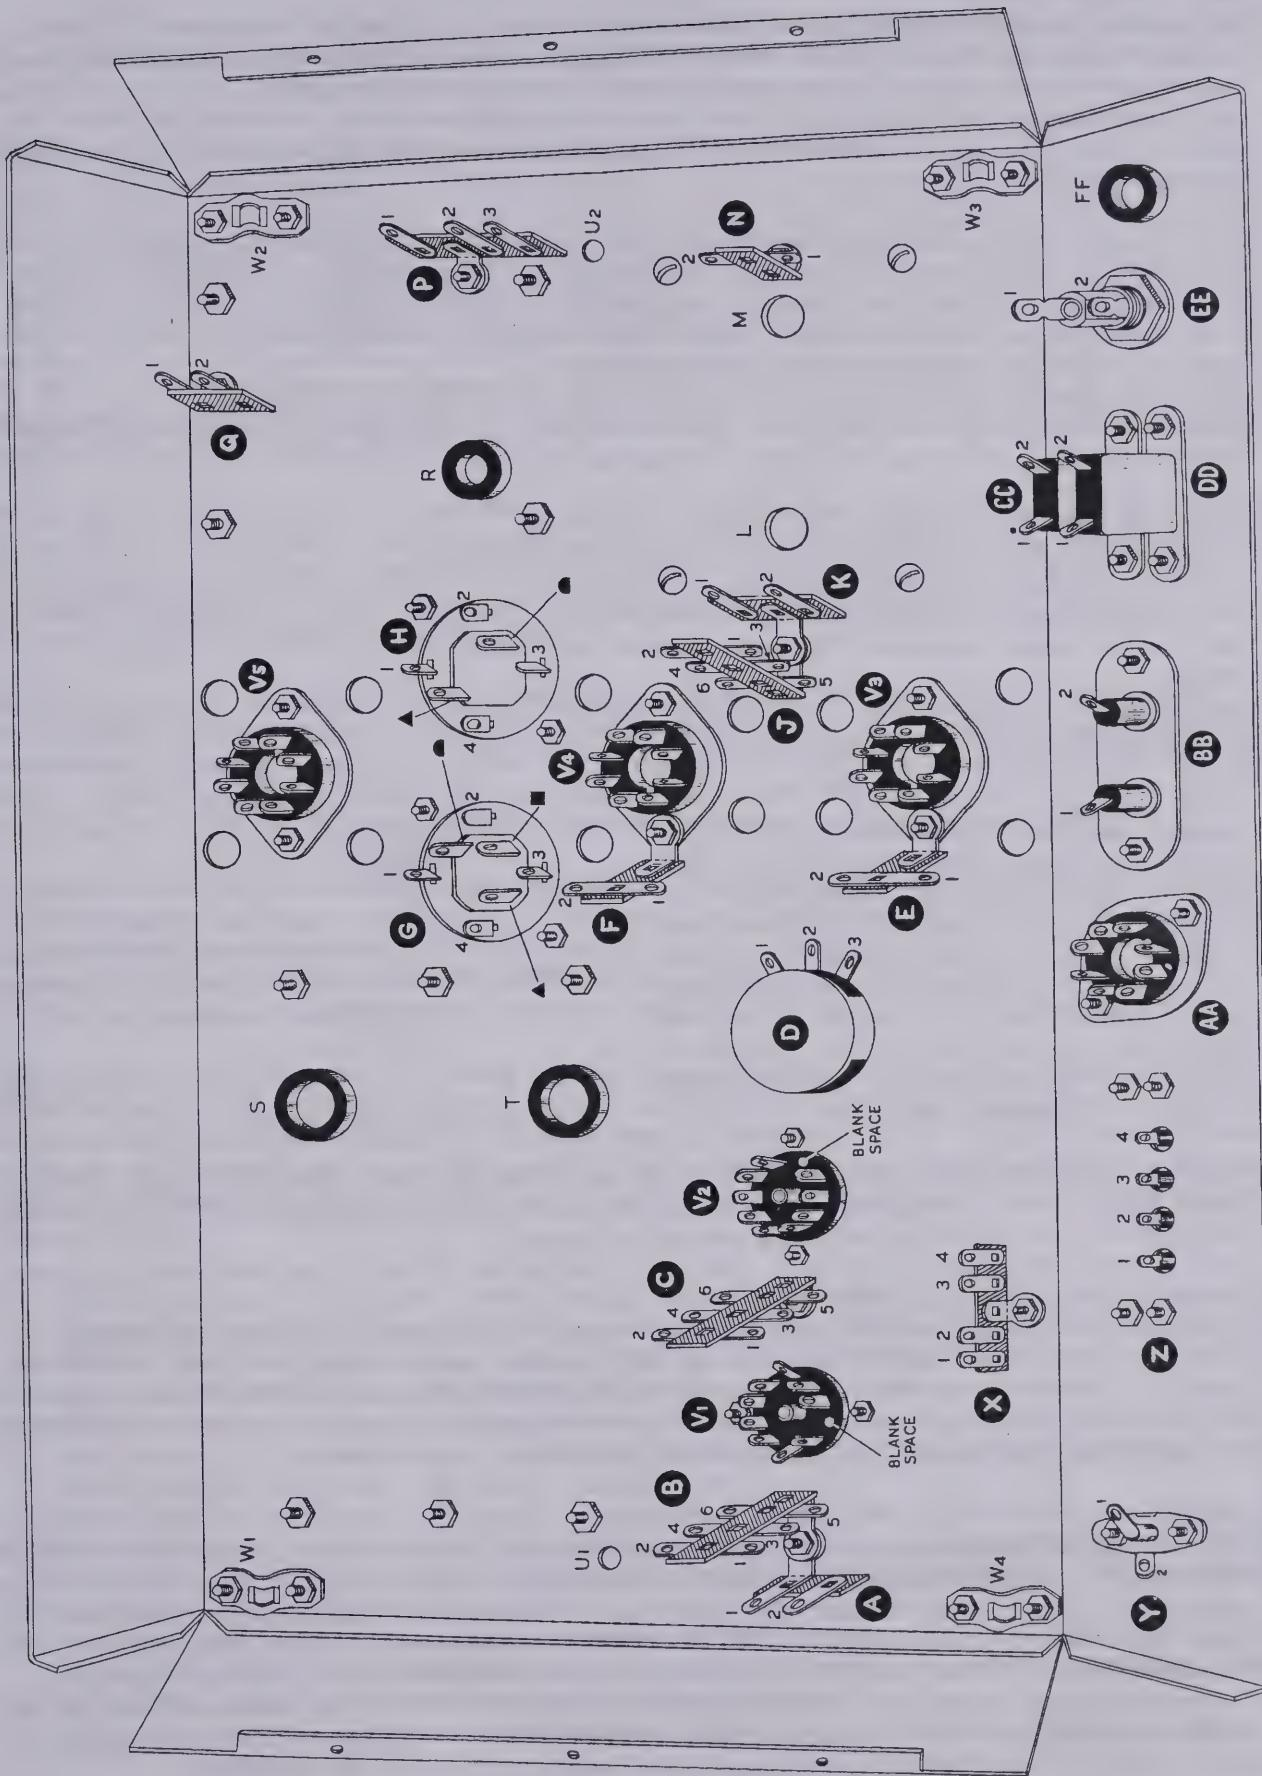
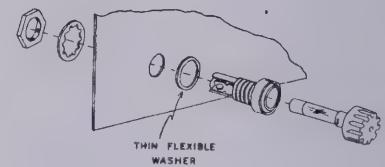
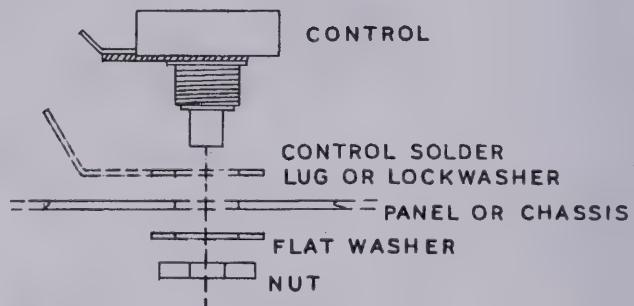

Figure 8
Figure 9
Figure 10
- (-.) Place the chassis with the open side up in front of you on your workbench. Be sure that the apron with the holes in it is nearest you. See Figure 8 on Page 13.
- (+) Mount a 9-pin miniature tube socket at location V1, using 3-48 hardware with lockwashers. Use the chart on Page 32 to identify hardware sizes if necessary. The body of the socket should be outside the chassis, with the lugs extending up through the socket hole. Orient the socket so the blank space is positioned as shown in Figure 8.
- (-) Install an octal socket at V3, using 6-32 hardware. Be sure that a 1-lug terminal strip is mounted on one screw as shown in Figure 8. Position the keyway of this socket to the left as shown.
- (+) Install one dual-lug terminal strip N as shown in Figure 8. Use 6-32 hardware.
- (+) Following Figure 9, mount the fuse holder at EE. Position the contact lugs as shown in Figure 8. Install the fuse in the holder.
- (+) Install the .300 Ω "Bass-Bal" control at D. Follow Figure 10 for assembly details and orient terminals as shown in Figure 8.
- (+) Now install 2-lug terminal strip Q, placing a 6-32 screw through the choke flange, chassis and strip bracket, as shown in Figure 8.
- (+) Identify the 20-20-20 μfd 450 volt filter condenser. This is the metal can with three terminals protruding through the insulating wafer at one end. Note that each terminal is identified by a symbol punched through the insulator adjacent to the lug. Orient these terminals as shown in Figure 8, slip the four mounting lugs through the slotted holes in the wafer at G. Then twist each lug approximately 45° to secure the condenser to the wafer. Be sure the condenser is held firmly against the wafer while twisting the lugs.
- (+) In the same way, mount the 40-40 μfd 450 volt filter condenser at H. Again, orient the lugs as shown in Figure 8 before twisting the mounting tabs.